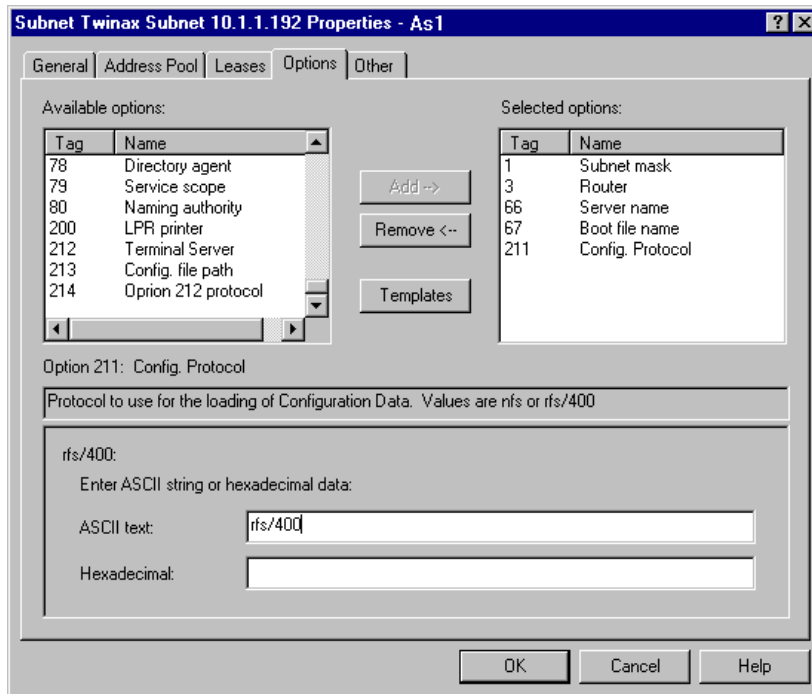
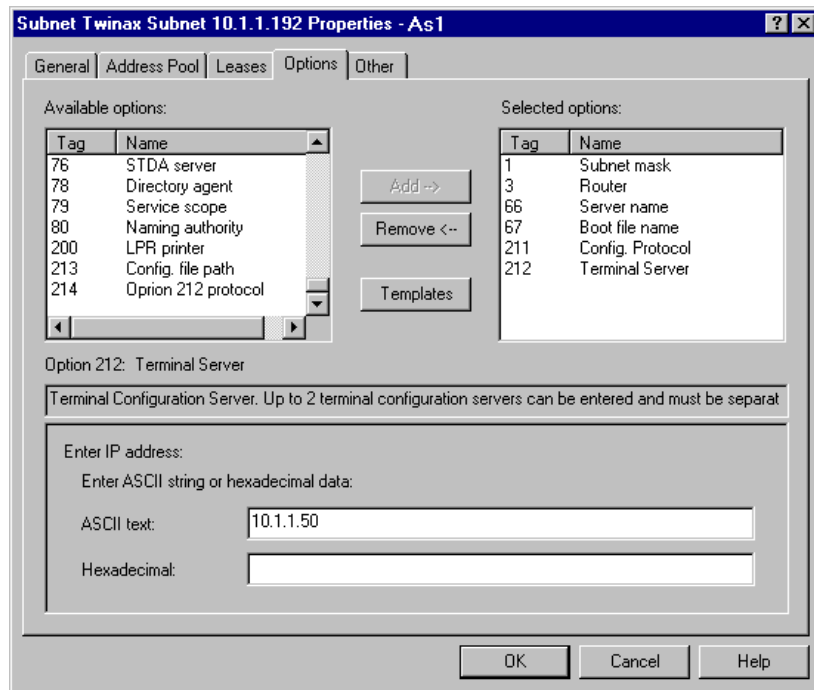
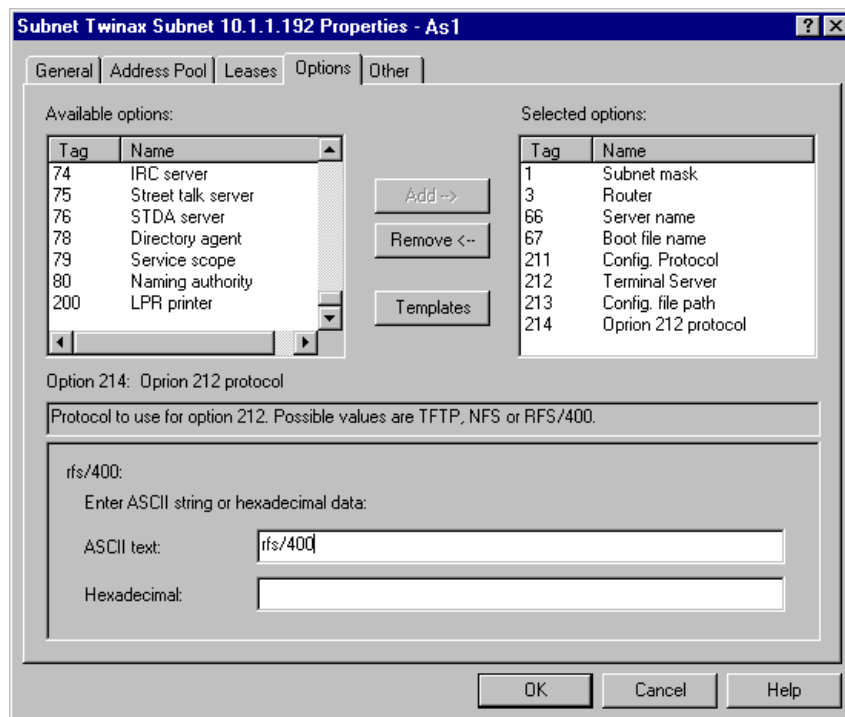

Figure 109. DHCP Configuration - Adding Tag 211 Configuration Protocol
Figure 110. DHCP Configuration - Adding Tag 212 Terminal Server
Figure 112. DHCP Configuration - Adding Tag 214 Protocol
9. The newly defined tags must now have the corresponding values added. For each of the tags from 211 to 214, click the TAG number in the Available options window and then click **Add** to add the value into the *Selected options*. Figure 109 on page 200, Figure 110 on page 201 through Figure 112 on page 203 shows the addition of these tags.